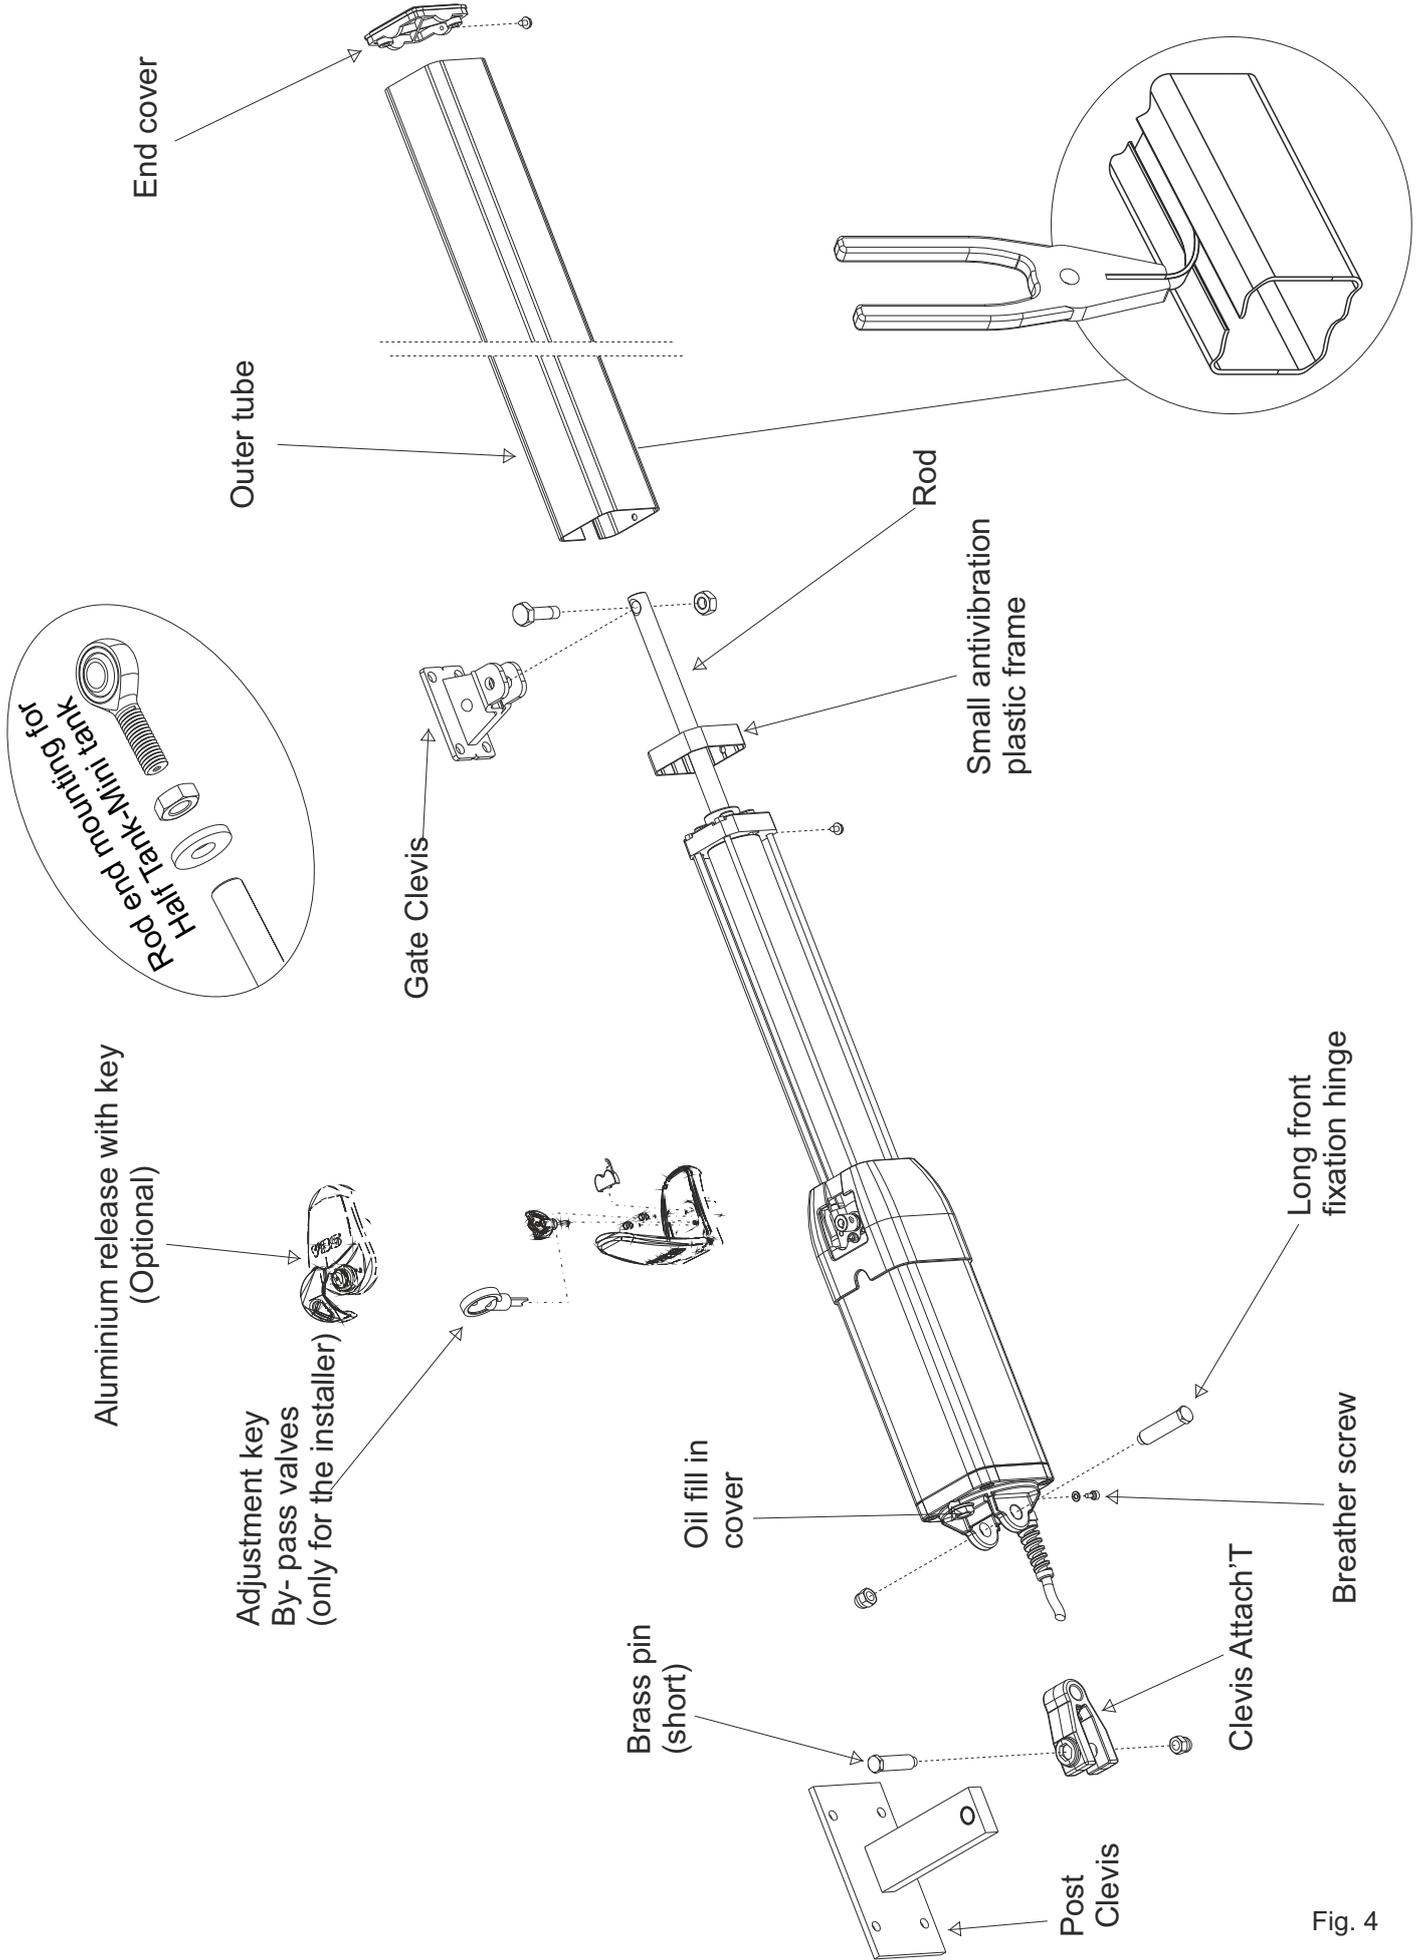

Fig. 4
- Open the package carefully, paying attention to not lose the parts reported in fig.4